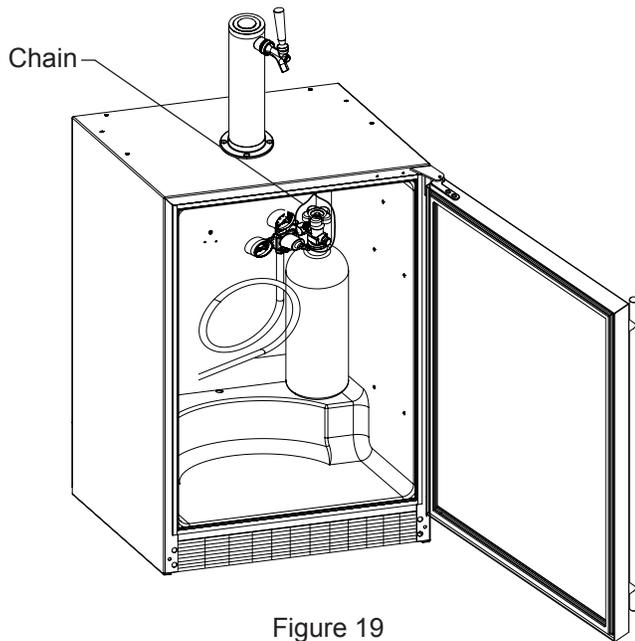

Figure 19
8. Locate the CO₂ tank in the corner of the refrigerator as shown in Figure 19 and secure with the chain.